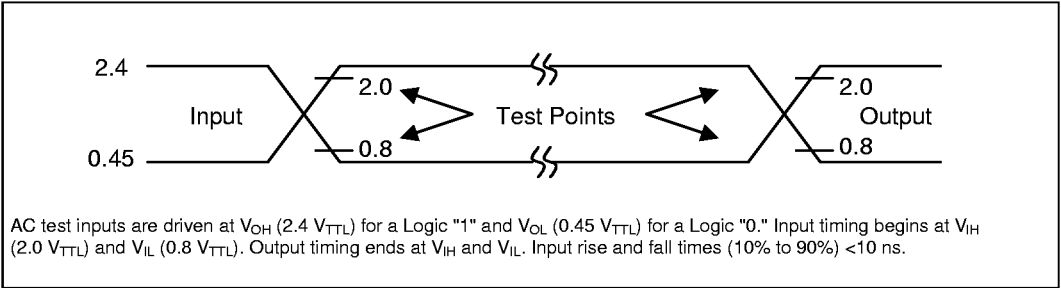

Figure 11. AC Input/Output Reference Waveform
1. See Figure 11, *AC Input/Output Reference Waveform*.